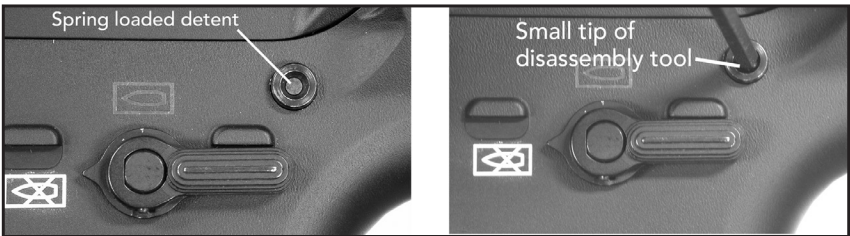

Fig. 66– Detail of the rear Takedown Pin showing spring loaded detent.
d. Insert the small tip of the disassembly tool into the spring loaded detent located in the center of the rear takedown pin. While pushing on the disassembly tool, drift the takedown pin from right to left until the takedown pin reaches its limit of lateral travel. The tip of the takedown pin should be visible on the left hand side of the lower receiver (Fig. 66).